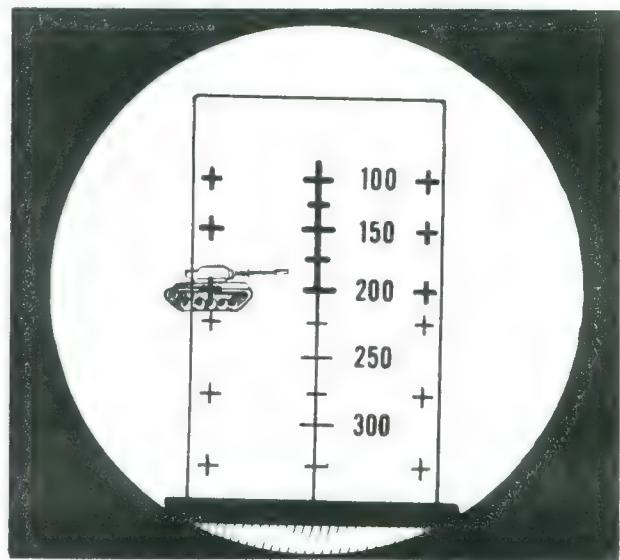
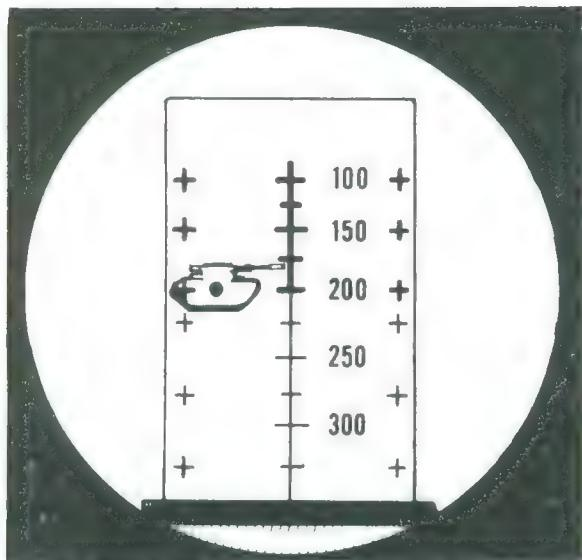

Figure 16. Target moving left to right, 15 miles per hour at 200 meters.
Figure 17. Target moving left to right, 10 miles per hour at 200 meters.
(3) *Targets moving directly across the gunner's front.* With a target moving perpendicular to the gunner's line of sight, the gunner must estimate the range to the target and the speed the target is moving. The sight reticle should be placed on the target so that the vertical range line is always in front of the target's direction of travel. The estimated lead and estimated range are applied to the target's center of mass (fig. 16). The lead marks on the M72 sight reticle indicate 15 miles per hour of speed. If the gunner estimates the target's speed as something less than 15 miles per hour he must approximate the amount of lead necessary to engage the target by visualizing a point on the reticle (fig. 17).